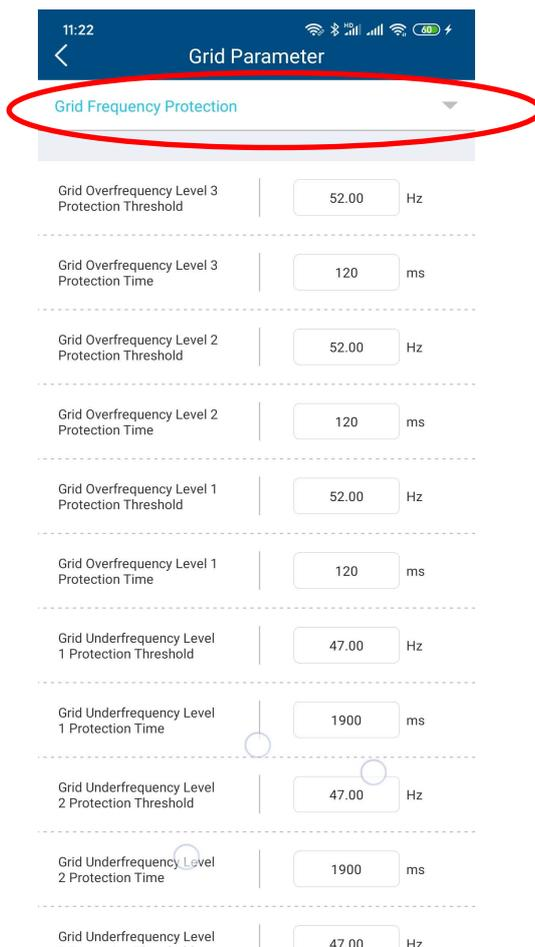

Figure 2-5-17 Grid frequency protection
- **Frequency protection setting:** the inverter can set three levels of frequency protection values and the time corresponding to each protection value .As shown in Figure2-5-17.